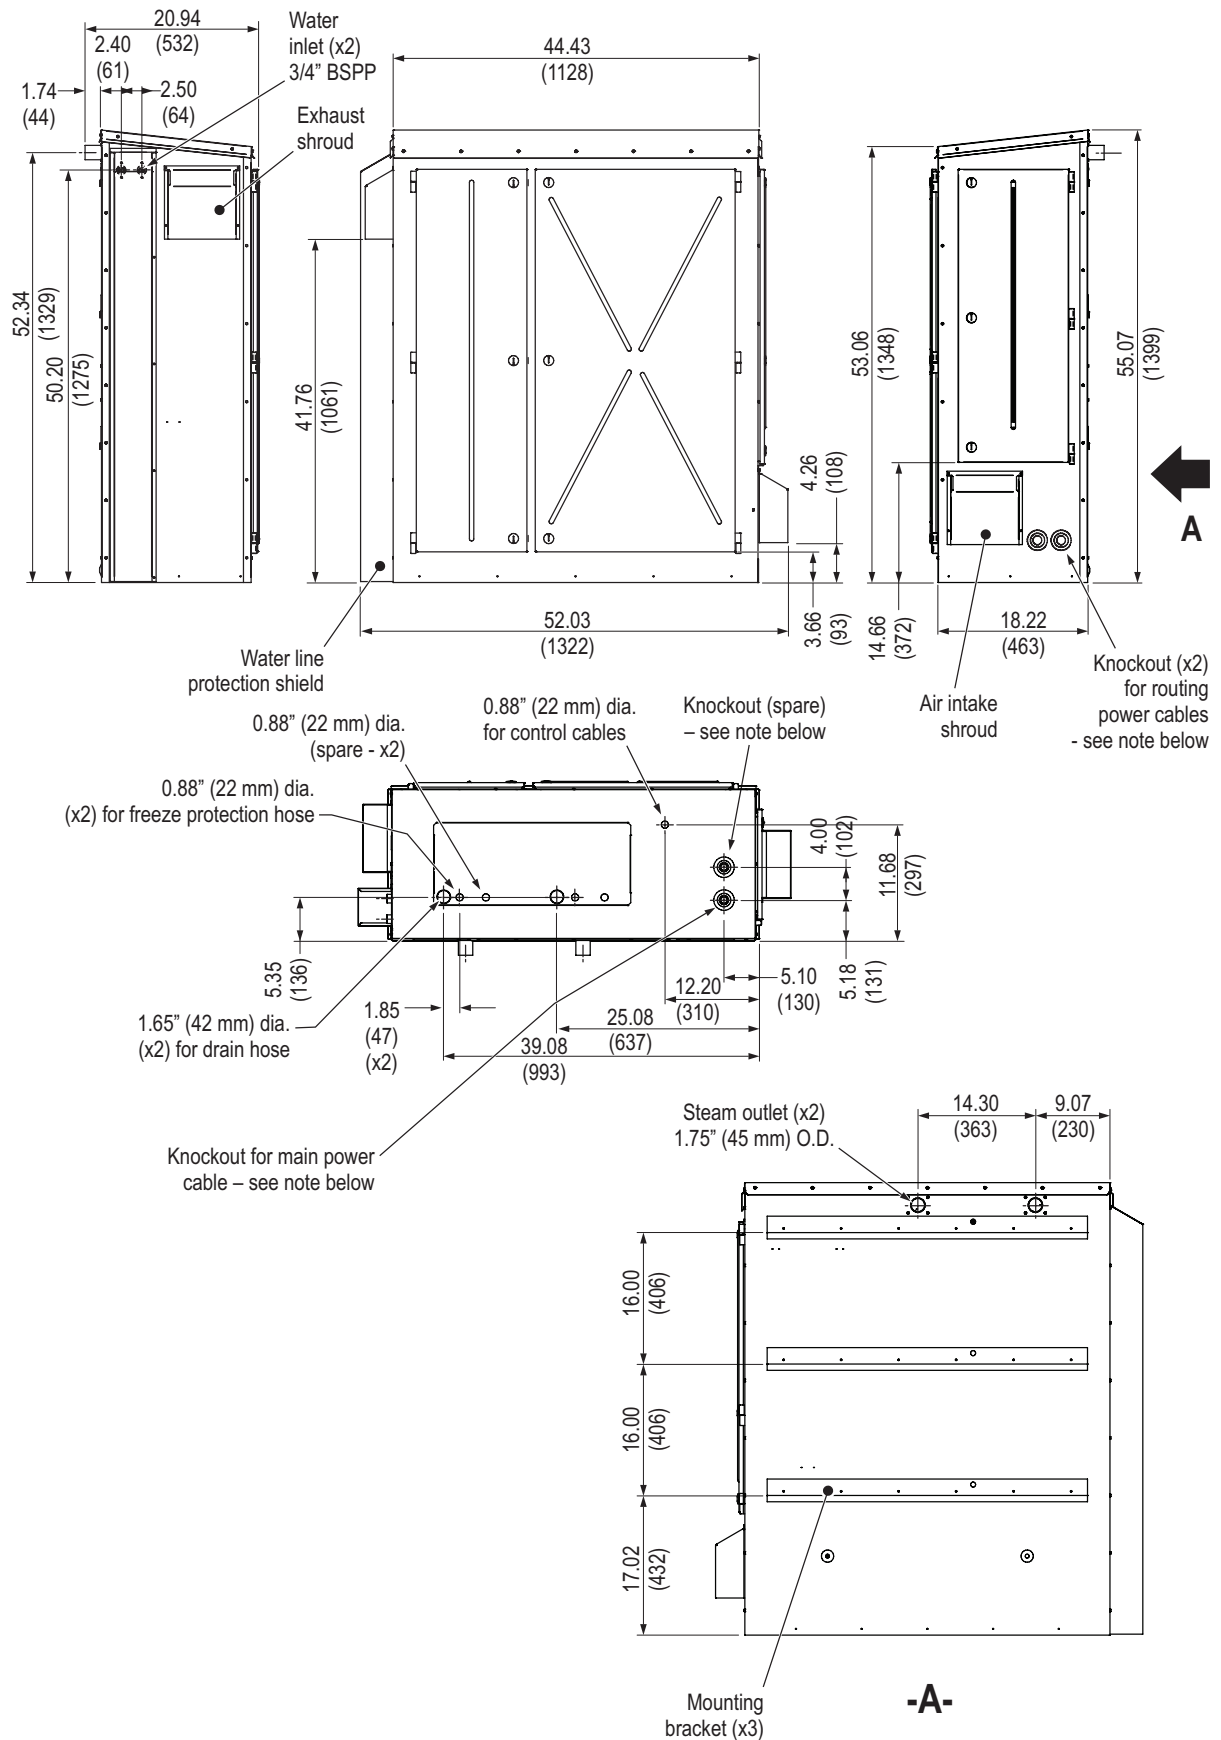

Figure 26: Nortec EL/RS Outdoor Steam Humidifier, Large Housing*
* EL-OC 050-100 and RS-OC 010-090. For RS-OC 090 with two cylinders, refer to Figure 26 on page 60.